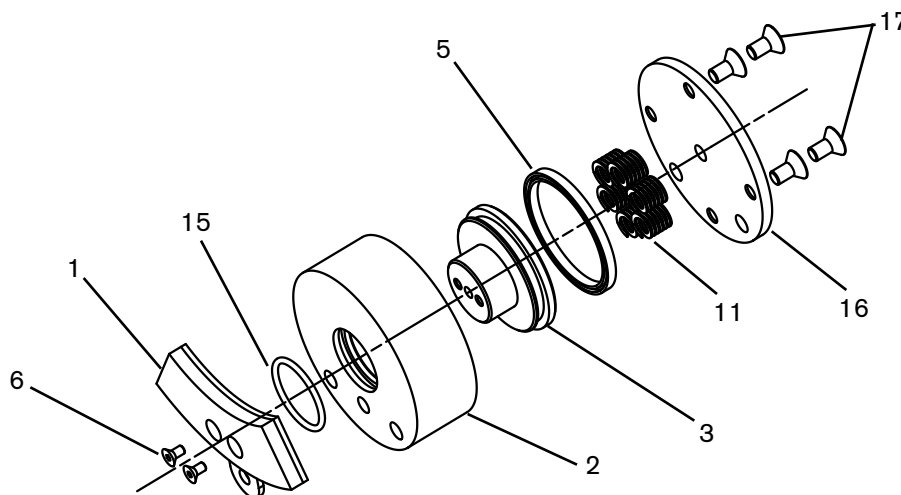

FIGURE 7
3. Remove the Flat Head Cap Screws (Item 6) securing the Shoe Facings (Item 1) to the Piston (Item 3). (See Figure 7 & 9).
Note: Orientation of U-Cup Seal is important. Open side of U-Cup Seal should face into the Cylinder (Item 2). (See Figure 7).
4. Remove the Flat Head Cap Screws (Item 17), End Cap (Item 16) and Springs (Item 11) from both Cylinders (item 2). (See Figure 7).
5. Push Pistons (Item 3) out of both Cylinders (Item 2). (See Figure 7).
6. Remove old U-Cup Seals (Item 5) and O-Rings (Item 15) from both Pistons (item 3). (See Figure 7).